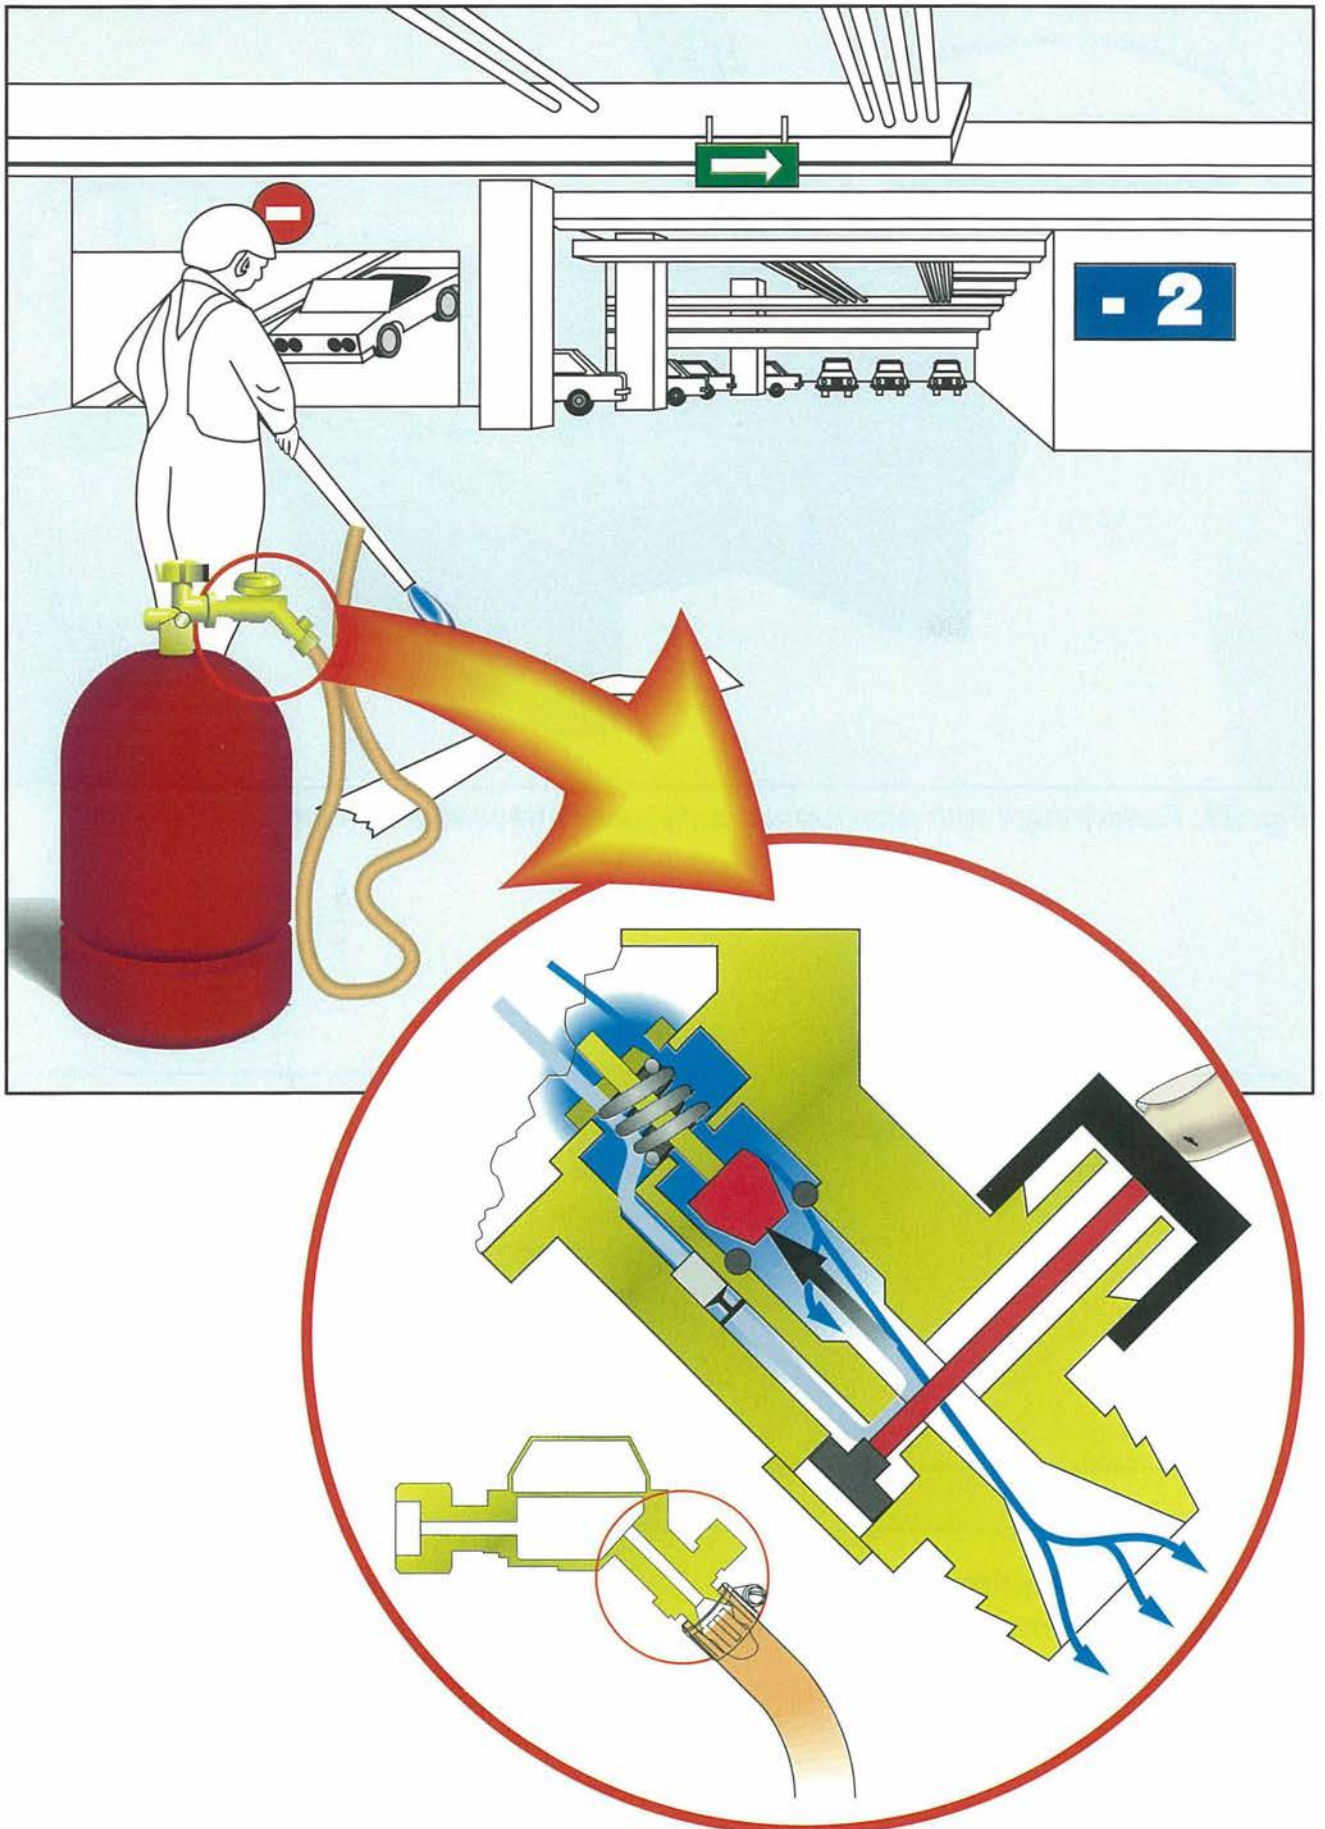

Fig. 20: Use of pressure regulators with leak testing equipment and tubing rupture safeguard in conjunction with consumption equipment in underground rooms
- pressure regulators with leak testing equipment and tubing rupture safeguards (Fig. 20),